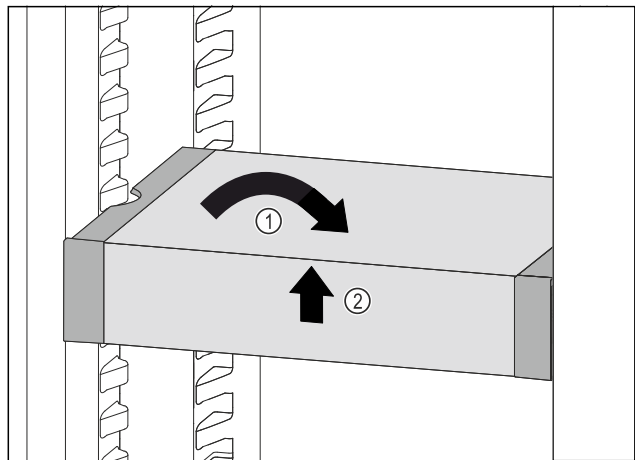

Fig. 148
- ▶ Set VarioSafe straight. Fig. 148 (1)
- ▶ Lift VarioSafe at the front. Fig. 148 (2)